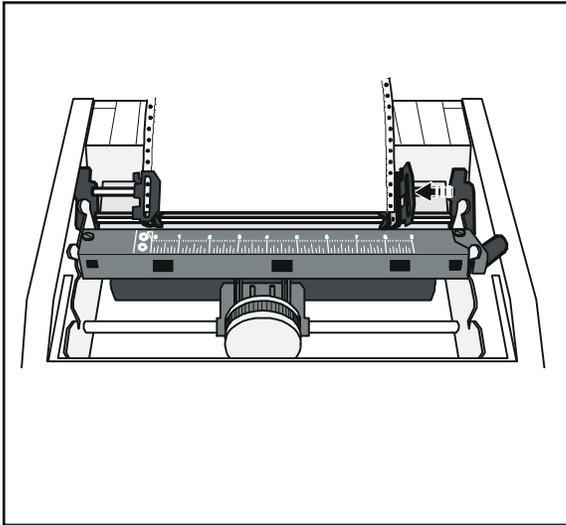

Figure 3-6. Mounting the Paper
7. Mount the paper onto the first three pins of both pin belts, as shown in figure 3-6, and close the tractor doors. You may need to slide the right tractor left or right as needed until its pin belt aligns with the paper holes.